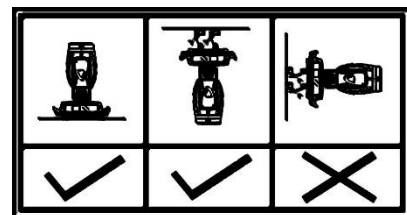

Fig.1
2. 2. Mounting positions: 0° and 90°. (Fig.1)